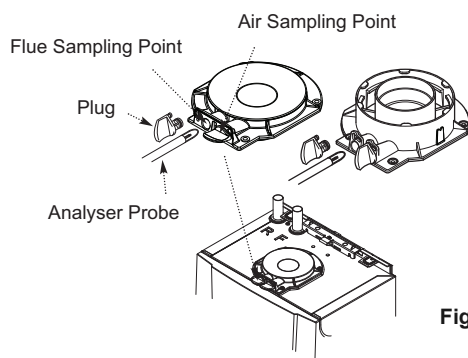

Fig. 60
3. Remove the plug from the flue sampling point (Fig. 60) and insert the probe of the flue gas analyser.